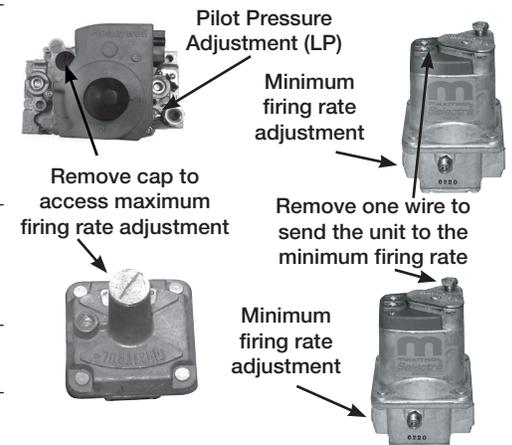

Fig. 2 Separate Regulator and Modulating Valves
9. Set the minimum firing rate to achieve a small ribbon of continuous blue flame across the burner. (**Fig. 2**)